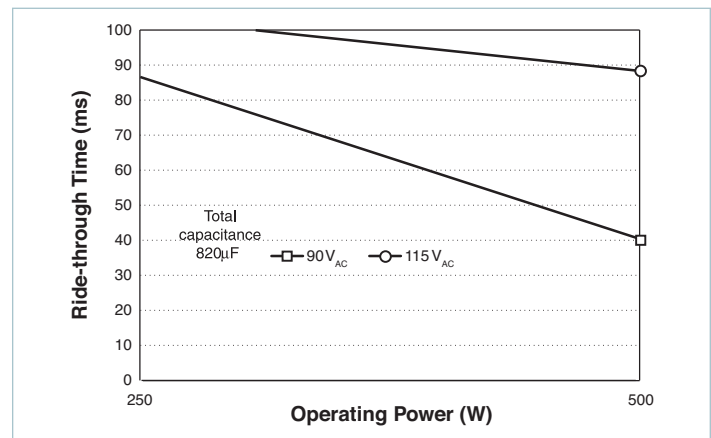

Figure 9.15 — Ride-through time vs. operating power
**Determining Ride-through Time:** Figure 9.15 illustrates ride-through time as a function of line voltage and output power, and shows that at a nominal line of 90VAC, ride-through would be 68ms. Ride-through time is a function of line voltage.